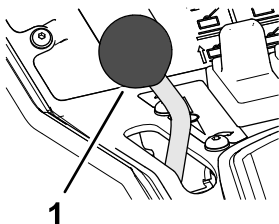

Figure 6
- To increase the engine speed, move the throttle-control lever (Figure 6) forward.